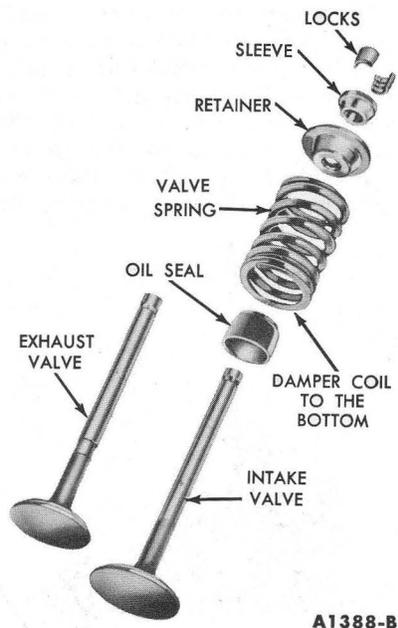

FIG. 47—Valve Assembly
2. Install each valve (Fig. 47) in the valve guide from which it was